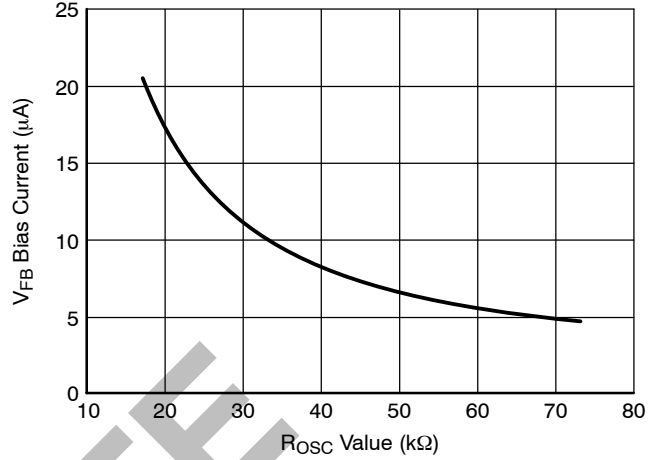

Figure 4. VFB Bias Current vs. Rosc Value
- The  $V_{\text{FB}}$  Bias Current changes with the value of  $R_{\text{ROSC}}$  per Figure 4.